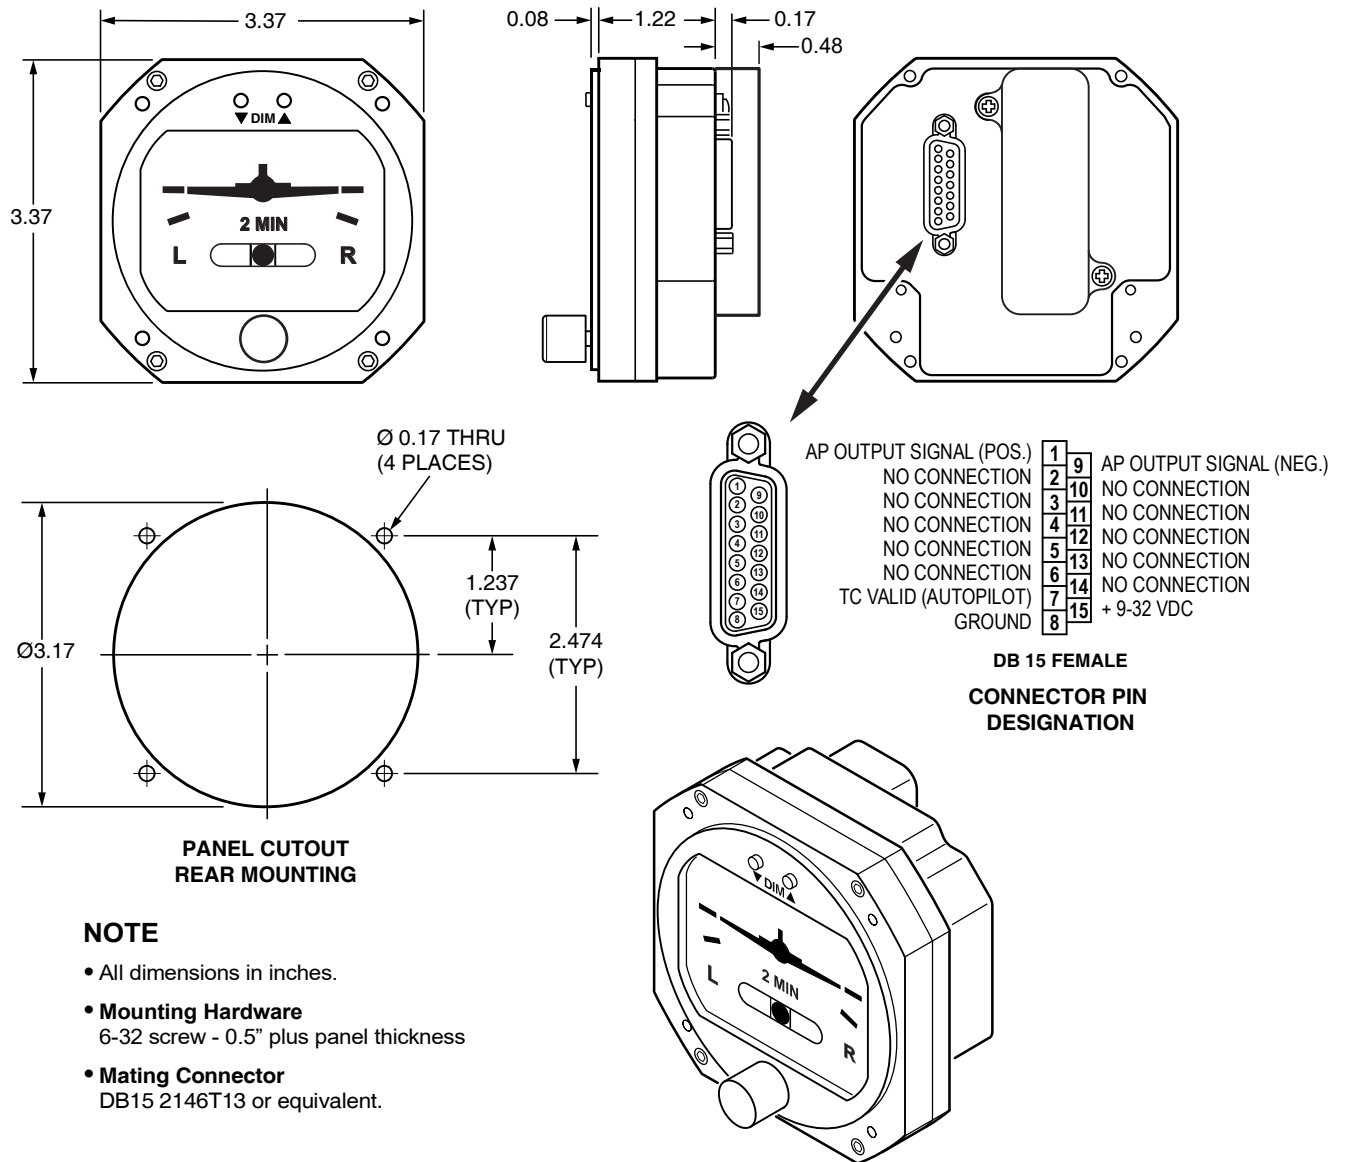

Figure 1.1, General Dimensions
DIMENSIONS/PANEL CUTOUT .....	SEE FIGURE 1.1
1. The RCA8310 Series Electric Turn Coordinator uses standard panel cutouts. Refer to Figure 1.1 "General Dimensions" for instrument and cutout dimensions.
3. Attach aircraft electrical connector to the instrument and insert into the instrument panel cutout (See Figure 1.1).